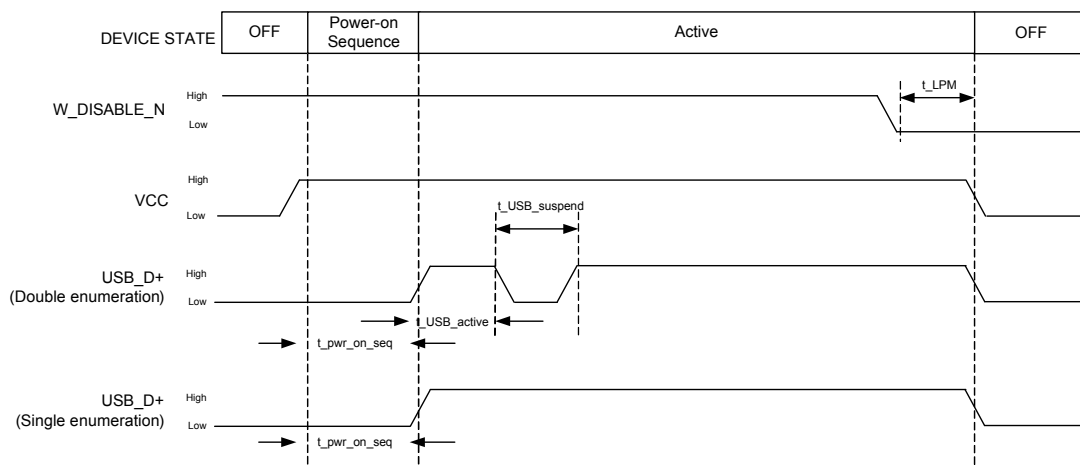

Figure 5-2: Signal timing (Power-on, USB enumeration, and power-off)
Figure 5-2 describes the timing sequence for powering the module on and off.
- Double enumeration—As shown in Figure 5-2: